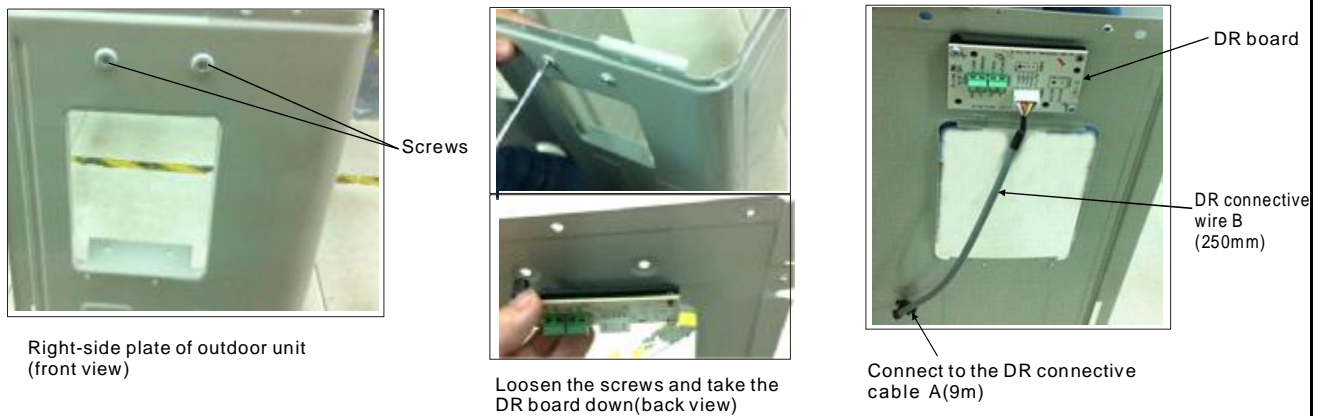
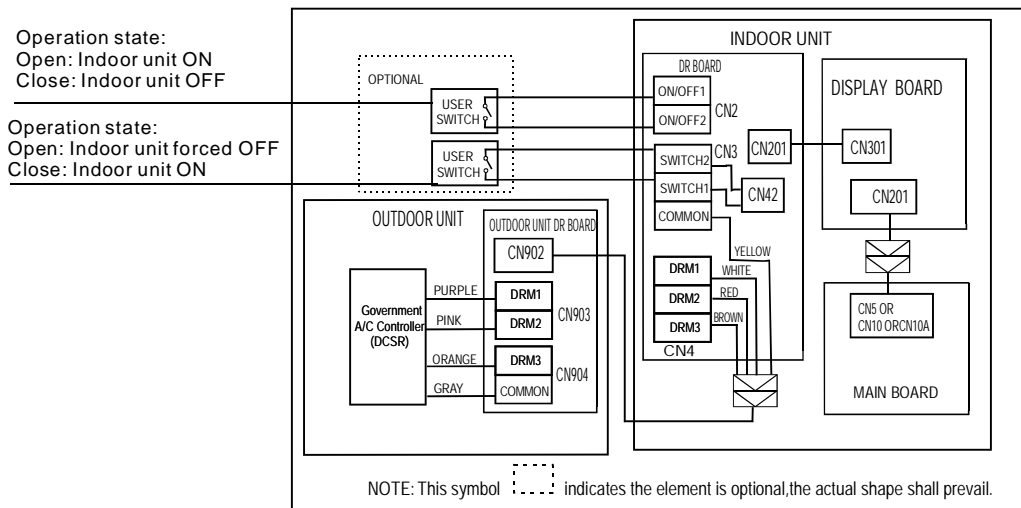

Fig.4
Fig.5
3. The outdoor DR board is installed at the back of the right-side plate of outdoor unit, fixed by two screws as shown in Fig. 4 (the DR board is installed on the plate horizontally or vertically (model dependent)). First remove the top cover and then take down the DR board by loosening the screws from outside of the outdoor unit. Using the DR connective wire B(250mm), connect to the DR board with the DR connective cable A(9m). Then connect the DR board with DCSR as shown in Fig.5. After connection, reinstall the DR board on the right-side plate with the original two screws.
4. Wiring diagram of indoor unit and outdoor unit, Fig5. For more details, please refer to the Installer's Manual of the Demand Control Signal Receiver supplied by Electric Power Company..